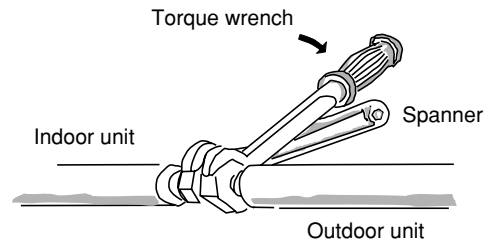

Fig. 52
- a) Tightly connect the indoor side refrigerant tubing extended from the wall with the outdoor side tubing. (Fig. 52)